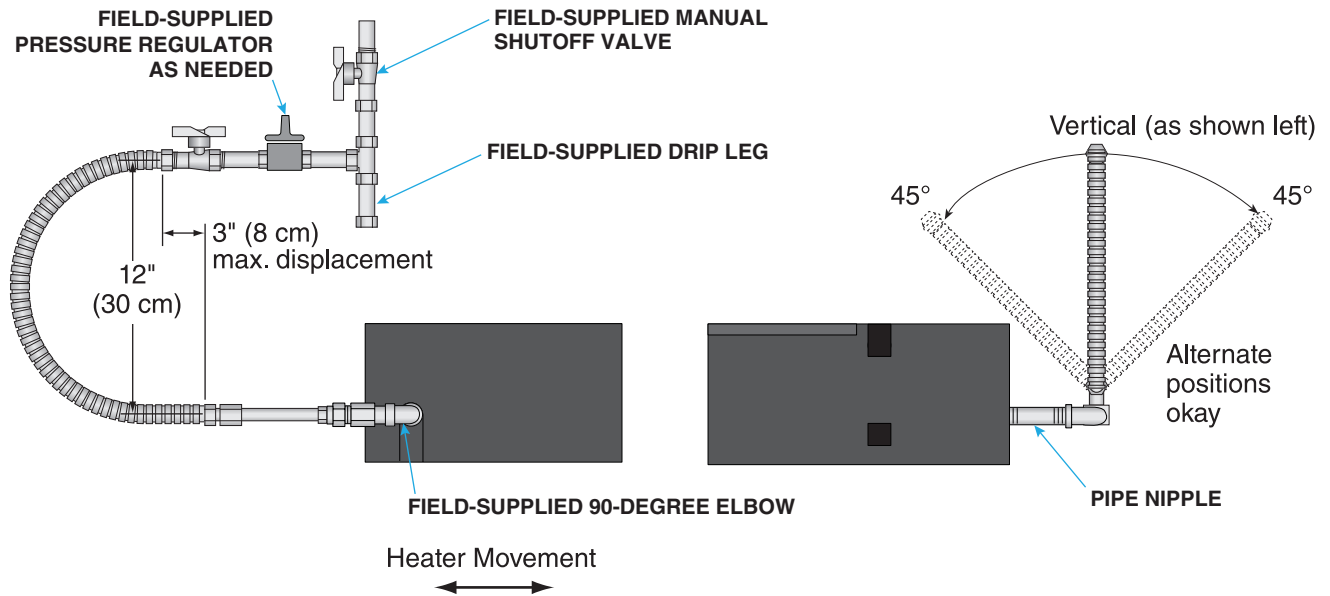

Figure 29. Flexible Gas Connector—Correct Installation
2. Immediately upstream of appliance and close to heater, install field-supplied connections as shown in Figure 29. Plugged 1/8-inch NPT tap on manual shutoff valve provides connection for supply line pressure test gauge.
3. Install flexible gas connector with shutoff valve in U-configuration as shown in Figure 29. Care must be taken to observe pipe bend diameter of 12 inches (30 cm) and pipe displacement distance of 3 inches (8 cm), which is for cold condition and may reduce when unit is fired.